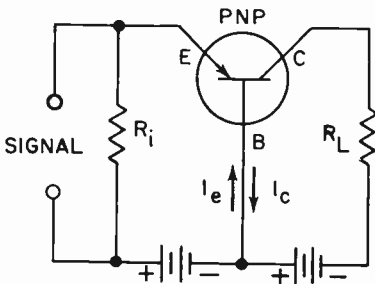

FIG. 10-17A. COMMON BASE CIRCUIT.
**SINGLE-BATTERY OPERATION.** Beside the higher power gains available from junction transistors in the common-emitter connection, this configuration offers another significant advantage that helps explain why one sees more common-emitter circuits than any other kind. In the P-N-P circuit shown in Fig. 10-17A, the collector and emitter currents flow in